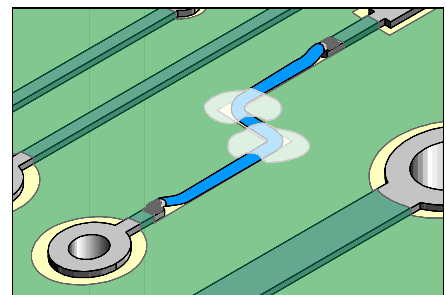

Figure 5: Bond the wires to the surface with adhesive or Tape Dots.
16. If desired bond the wire to the PC board surface with adhesive, epoxy or Tape Dots. (See Figure 5). Refer to Procedure 6.1.